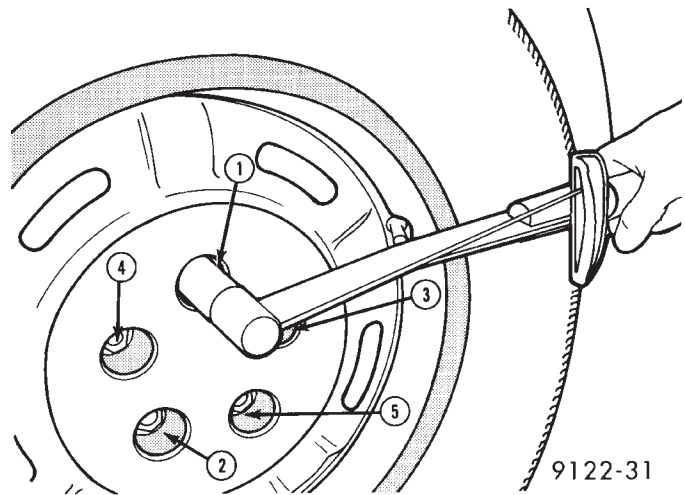

Fig. 9 Tightening Wheel Nuts
(9) Install the wheel and tire assembly. Tighten the wheel mounting stud nuts in proper sequence (Fig. 9) until all nuts are torqued to half specification. This is important. Then repeat the tightening sequence to the full specified torque of 129 N•m (95 ft. lbs.).
(10) Remove jackstands or lower hoist. **Before moving vehicle, pump the brake pedal several times to insure the vehicle has a firm brake pedal to adequately stop vehicle..**